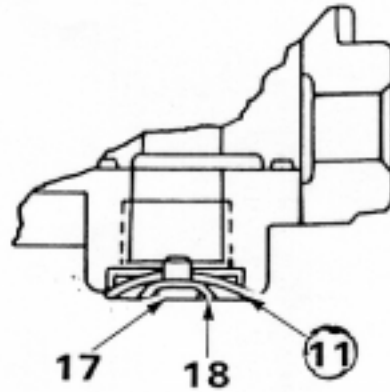
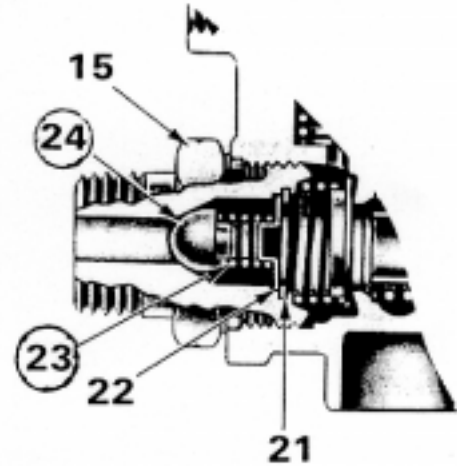

Figure 4
Figure 5
6. Remove the screw (17), washer (18) and discard the diaphragm (11). (Fig. 4) (If so equipped).
7. Remove check valve assembly (15) and remove and discard O-Ring (7), spring (6), and inlet exhaust valve (5).
DISASSEMBLY - Check Valve Assembly (15) Figure 5
1. Remove retaining ring (21) and spring retainer (22) from check valve assembly (15) Retain items 21 & 22 for reuse.
2. Remove and discard valve spring (23) and valve (24).
3. Place spring (3) over the piston and install in body.
4. Place the sealing ring (4) in its groove in the cover (12). Assemble cover to body, as marked at disassembly. Replace special identification tag. Torque the four cap screws (13) to 40-60 inch pounds.
5. Install the piston assembly (8) into the body.
6. Install the spring (9) and cover (20) and torque screws (19) to 20-30 inch pounds.
7. If so equipped, re-assemble the exhaust diaphragm (11) to the exhaust port with washer (18) and screw (17), Torque the screw to 15-25 inch pounds.
ASSEMBLY - Check Valve Assembly (15) (Figure 5)
8. Install spring (23) on valve (24) and spring retainer (22) and install in body (15).
9. Install retaining ring (21). Make sure it is properly seated.
10. Insert the inlet exhaust valve (5) into the valve body, flat side adjacent to the inlet exhaust valve seat.
11. Position the inlet exhaust spring (6) on the inlet exhaust valve, install O-Ring (7) on the check valve assembly (15) and install. Torque to 200-300 inch pounds.